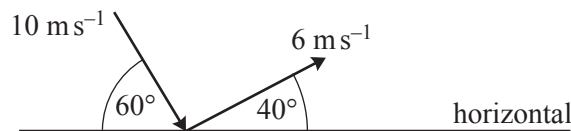

Fig. 1.2
- (b) The velocities of a small object immediately before and after an elastic collision with a horizontal plane are shown in Fig. 1.2.